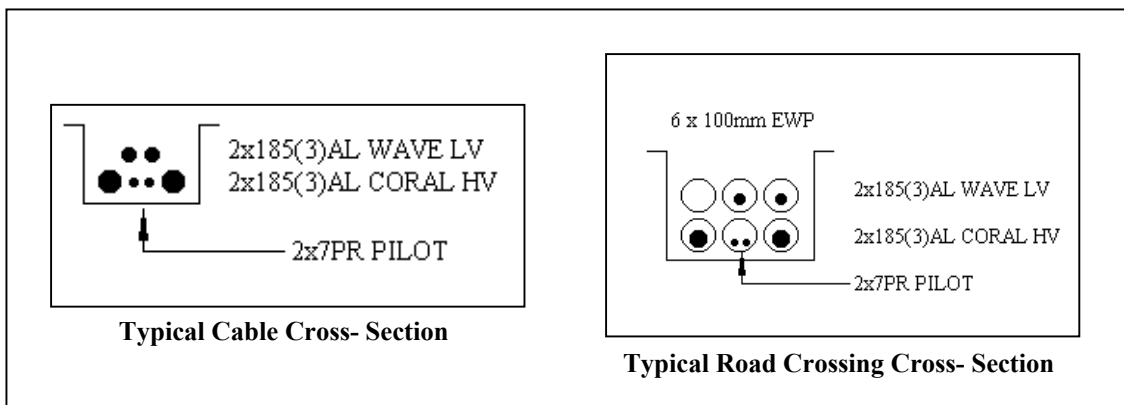

Figure 3
- If multiple cables / pipes / road-crossings are laid, the configuration and depths of these must be shown on any drawings (Refer to figure 3). The configuration should be shown in a section drawing: